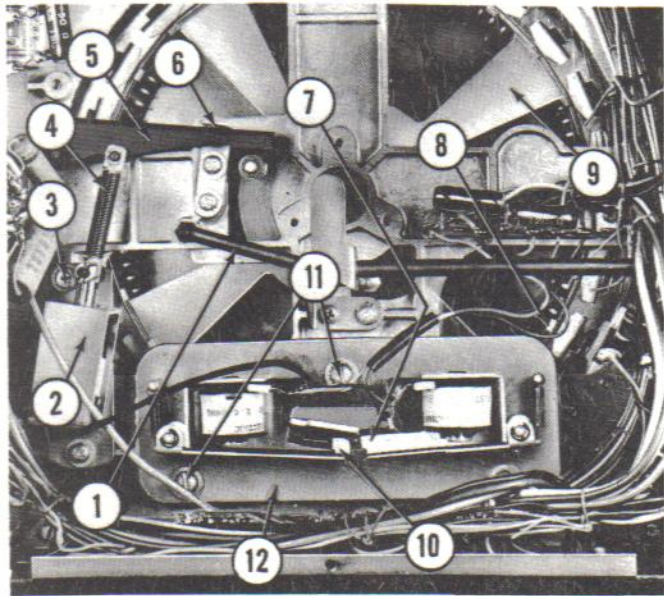

Fig. 26. ELECTRIC SELECTOR ASSEMBLY - 2504
(1) The rotating plate and rocker arm assembly on the 104 electric selector can best be adjusted with the electric selector removed from the phonograph. The tips of the rocker arms (Fig. 26, Item 8) should be aligned with the 26 selector pins in the "A" group when the rotating plate is held in its normal rest position by its retracting spring (Item 1).
Adjustment may be accomplished by loosening the three screws (Fig. 26, Item 11) and moving the stop coil mounting plate (Item 12). Manually hold the rotating plate and rocker arm assembly to the extreme right hand stop position and check the alignment of the tips of the 26 rocker arms with the 26 selector pins in the "D" group. The stop coil mounting plate (Item 12) may be moved to obtain a satisfactory alignment at both "A" and "D" groups.
The driver solenoid (Fig. 26, Item 2) serves to rotate the rocker plate assembly (Item 9) to either the B, C or D stop positions as selected. The solenoid plunger is connected to the pin, hub and drive arm assembly (Item 5) by a spring and plug assembly (Item 4). The alignment of the solenoid and plunger may be adjusted to provide straightline action of the plunger within the solenoid by loosening the solenoid bracket mounting screws, one of which is shown at Item 3, and moving the solenoid. The mounting holes are located so that when the rocker plate assembly is in the "D" group position and the plunger is bottomed in the solenoid the spring (Item 4) is stretched 1/32" to 1/16". Should this condition not exist examine the linkage and studs for loose fittings, loose mounting of the driver solenoid or the plugs in the spring and plug assembly (Item 4) not properly mounted. The plugs are threaded and screw into the ends of the spring.
With the rotating plate and rocker arm assembly held in its normal rest position by its retracting spring (Fig. 26, Item 1), set the stop bracket (Item 6) to provide 1/32" clearance between the drive arm assembly (Item 5) and the roller and bearing assembly on the rotating plate.